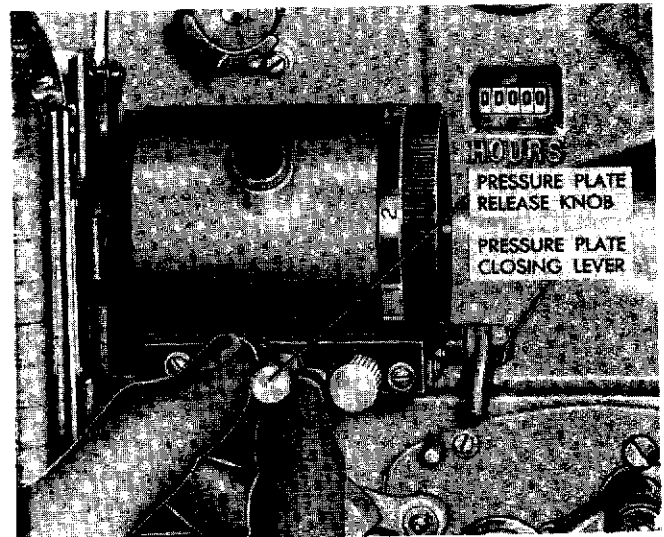

Figure 1-13. Opening the Film Channel
- a. Make certain that the aperture plate is all the way down. To do this, open the film channel by pulling out the pressure plate release knob (figure 1-13). Grasp the handle of the aperture plate and push it down firmly as far as it will go. Close the film channel by pushing the pressure plate closing handle until the pressure plate release knob snaps back in.
c. Turn the threading knob to the point where the words "THREADING KNOB" are in a horizontal plane. This will place the shuttle teeth in their maximum position of protrusion for engagement with the film perforations. Open the film channel for threading by pulling out the pressure plate release knob (figure 1-13). Form a proper length of upper film loop as indicated by the loop guide line on the mechanism plate. Place the film flat on the aperture
plate as shown in figure 1-16. Make certain that the film is located in the recessed portion of the aperture plate, flat against the aperture opening, and that the shuttle teeth engage with the film perforations. Then, bring the pressure plate against the film by pushing the pressure plate closing handle (figure 1-13) to the left until the pressure plate release knob snaps back in.
b. Check the film channel to be sure that it is fully closed. If not, push the pressure plate closing handle (figure 1-13) until the pressure plate release knob snaps back in.